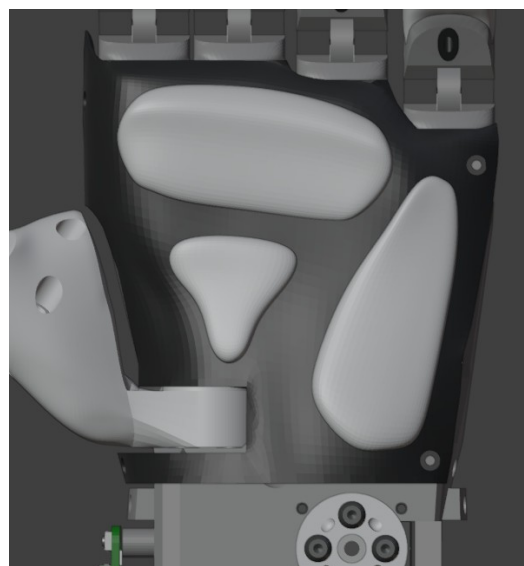

Figure 5.74: Skeleton - palm installed
3. Position the pins on one side of the rear cover onto the corresponding interlocking holes on the skeleton, snap them into place, then, while rotating the cover, snap the pins on the other side into place. See figures 5.74 and 5.75.